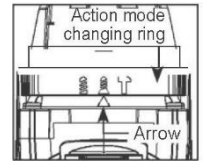

Fig. 12
2. Select one mode suitable for your work. Turn the action mode changing ring and align the mark that you selected with the arrow on the tool body. (Fig. 12)